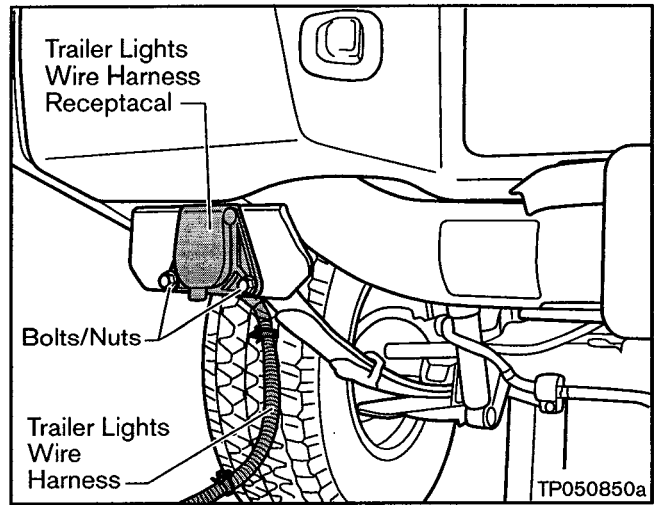

Figure 7
d. Remove two Bolts/Nuts and remove (slide DOWN) the Trailer Lights Wire Harness Receptacle from the Tow Hitch (see Figure 7).